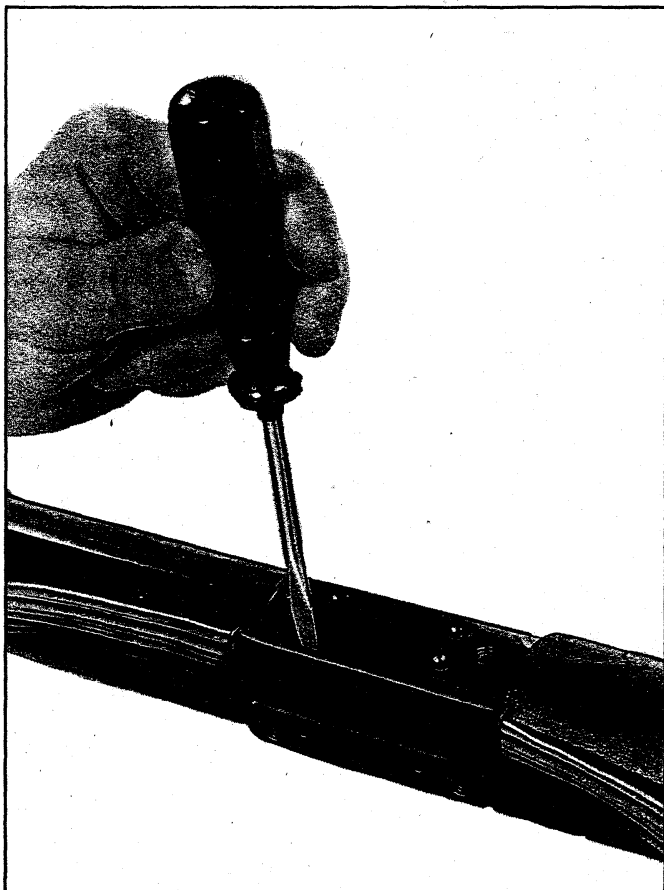

Fig. 25—Removing Wiring Protector
1. Unsnap and remove wiring protector (fig. 25).